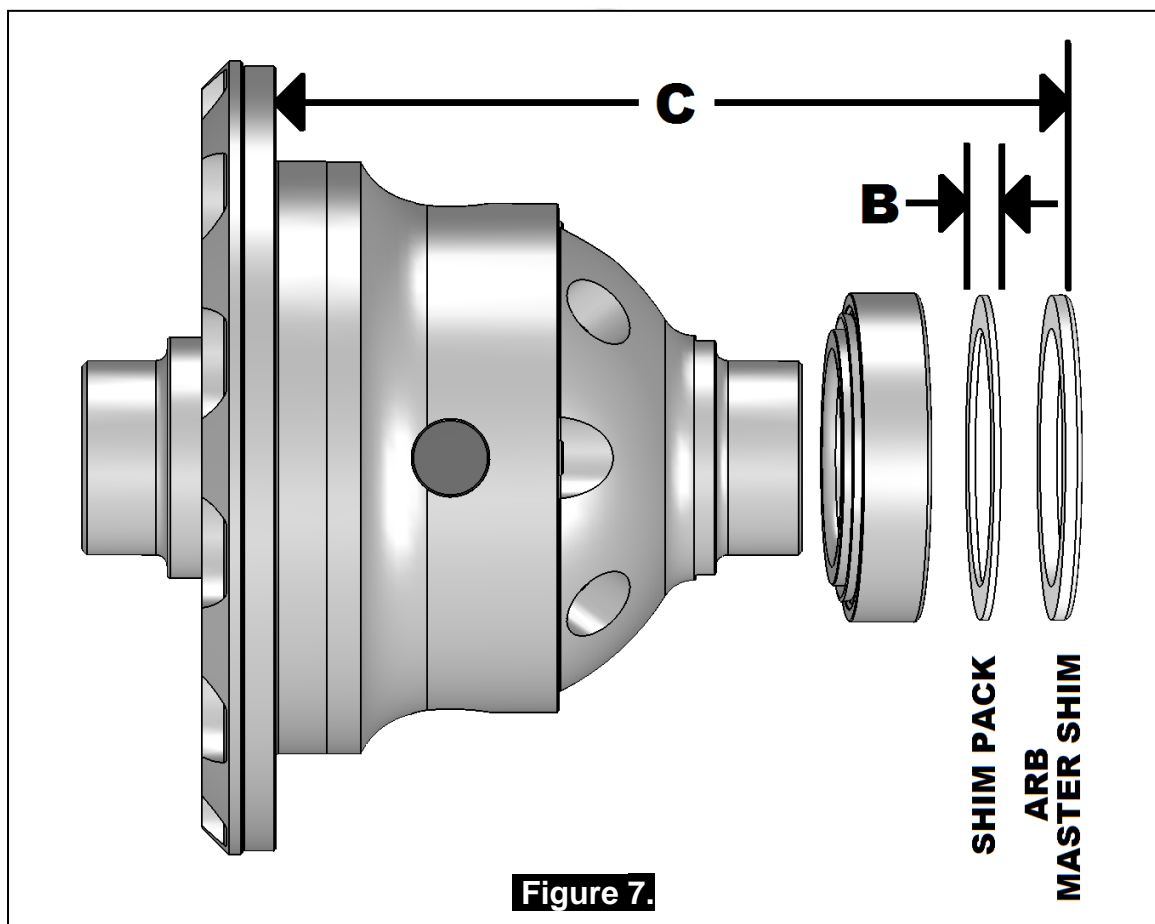

Figure 7.
- Assemble the bearing cup and one of the supplied ARB master shims onto the right-hand side of the *Air Locker* (as shown in Fig. 7.) and measure the total distance 'C'.
- To decrease the amount of backlash, reduce the shim thickness 'B' (Fig.7.) and increase the shim thickness 'D' (Fig.9.) by the same amount. Reverse this step to increase the backlash.